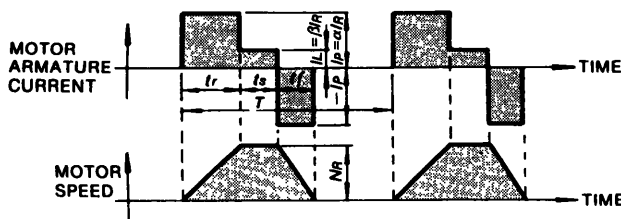

Fig 4.3 Timing Chart of Motor Armature Current and Speed (Restricted by SERVOMOTOR)
- When the motor repeats rated-speed operation and being at standstill (Fig.4.3).